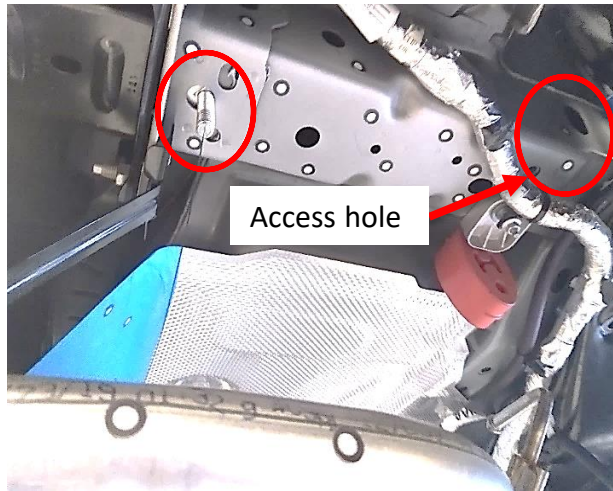
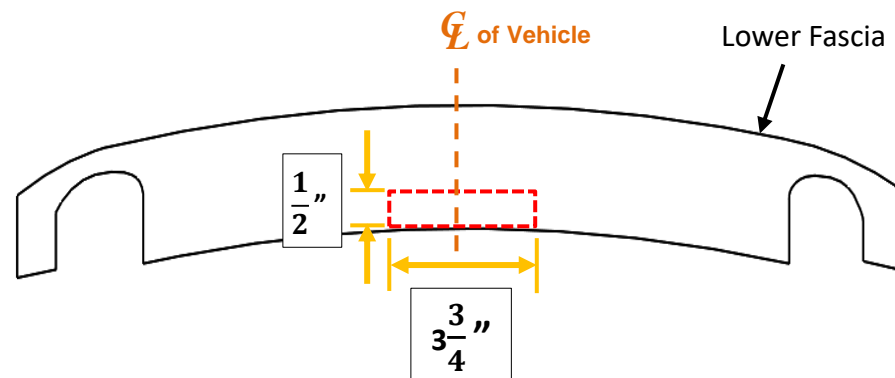

**Figure 2**
**Figure 3**
**1. Lower vehicle exhaust** - Using an exhaust hanger removal tool, lower muffler by removing (1) rearmost driver side rubber hanger and (1) rearmost passenger side rubber hanger. **Note:** Be sure that exhaust is supported before removing rubber hangers. A spray lubricant or soapy water on rubber hangers makes them slide off metal pins more easily.
**2. Trim Heat Shield** – Remove (4) screws securing heat shield and trim as shown in **Figure 2** (Ford Escape) & **Figure 3** (Lincoln Corsair). Return screws and trimming area to owner. **Note:** Heat shield can be trimmed without fully removal.